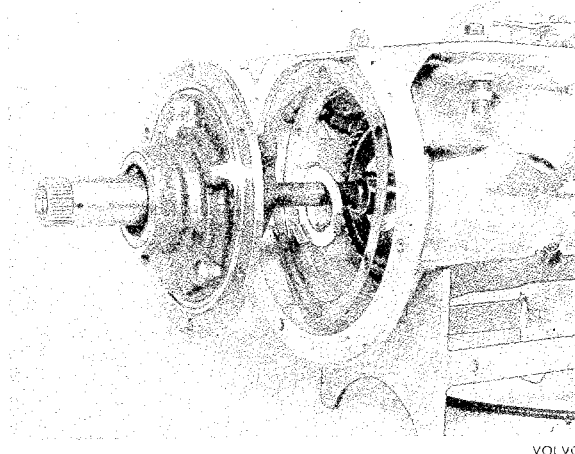

Fig. 4-111. Installation sequence, front pump assembly thrust washer and gasket
21. Stick on the thrust washer with vaseline and then fit the pump with a new gasket on the transmission case, see Fig. 4-111. Re-check the end float in accordance with point 21, page 4 : 32.